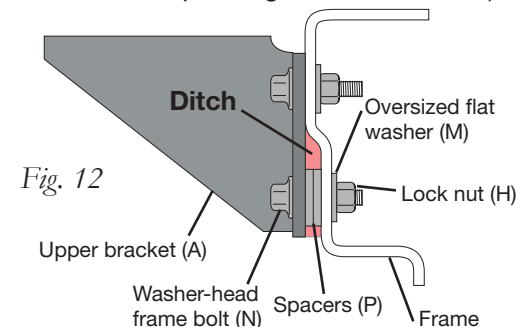

Fig. 12
For Dodge trucks with Ditch: The top two, or the bottom two, holes (depending on the model of the truck) will fall into a horizontal indentation. Spacers are provided to compensate for the indentation. Loosely install a washer-head frame bolt (N), two upper bracket spacers (L), an oversized flat washer (S), and a lock nut (H) for such instances (Fig. 12).